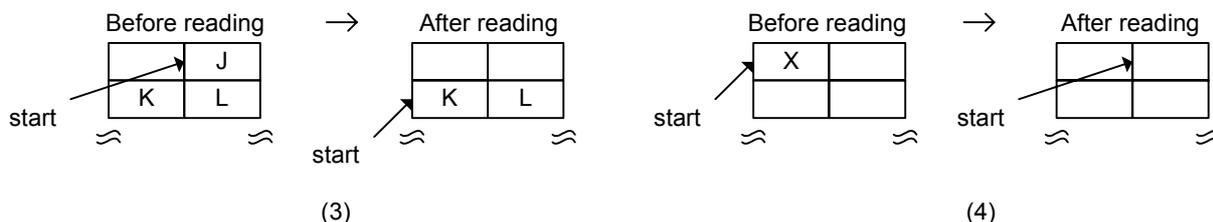

Fig.1.86 FIFO reading processing (operation requiring caution)
Fig.1.86 (3) illustrates a case of word reading using the FIFO_Rd_0,1 register from a state in which byte boundaries exist. Indeterminate data is output to High and data J is output to Low. The read pointer increments one byte at a time. Fig.1.86 (4) shows the operation performed when word reading using the FIFO_Rd_0,1 register from a state in which byte boundaries do not exist and one data byte remains. Data X is output to High and indeterminate data is output to Low. The read pointer increments one byte at a time.